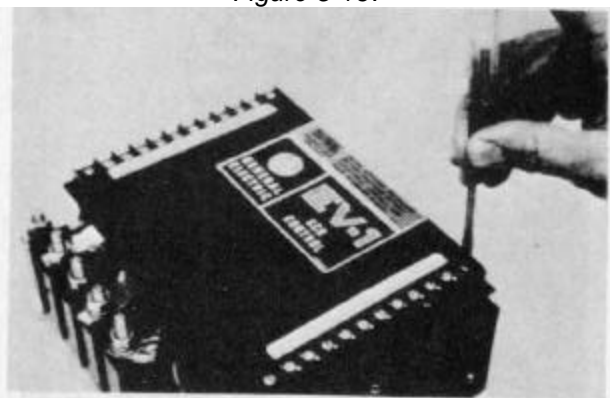
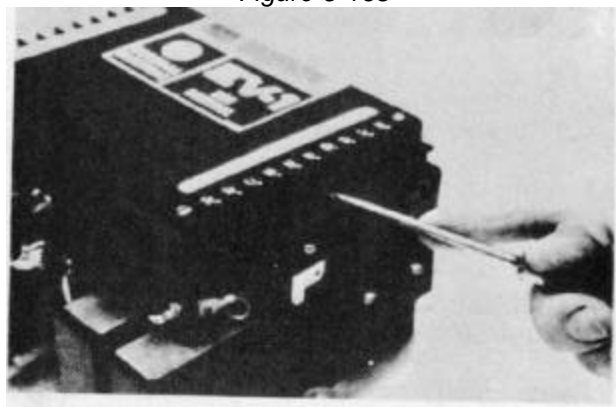

Figure 5-168
Figure 5-169
3. Remove (4) screws (Fig. 5-168) and separate terminal strips from oscillator card by prying up with a screwdriver (Fig. 5-169) in slots provided.